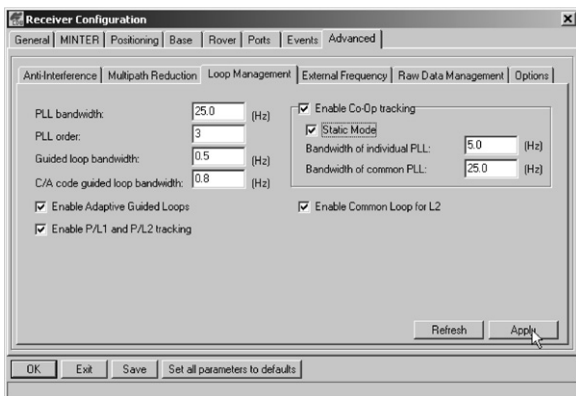

Figure 3-5. Advanced->Loop Management
4. Click the **Loop Management** tab and set the following parameters, then click **Apply** (Figure 3-5):